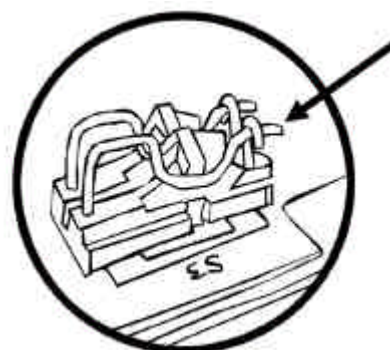

fig. 2
3. Access to switch on **fig. 2** and carefully open. The switch position, indicates machine operation mode: